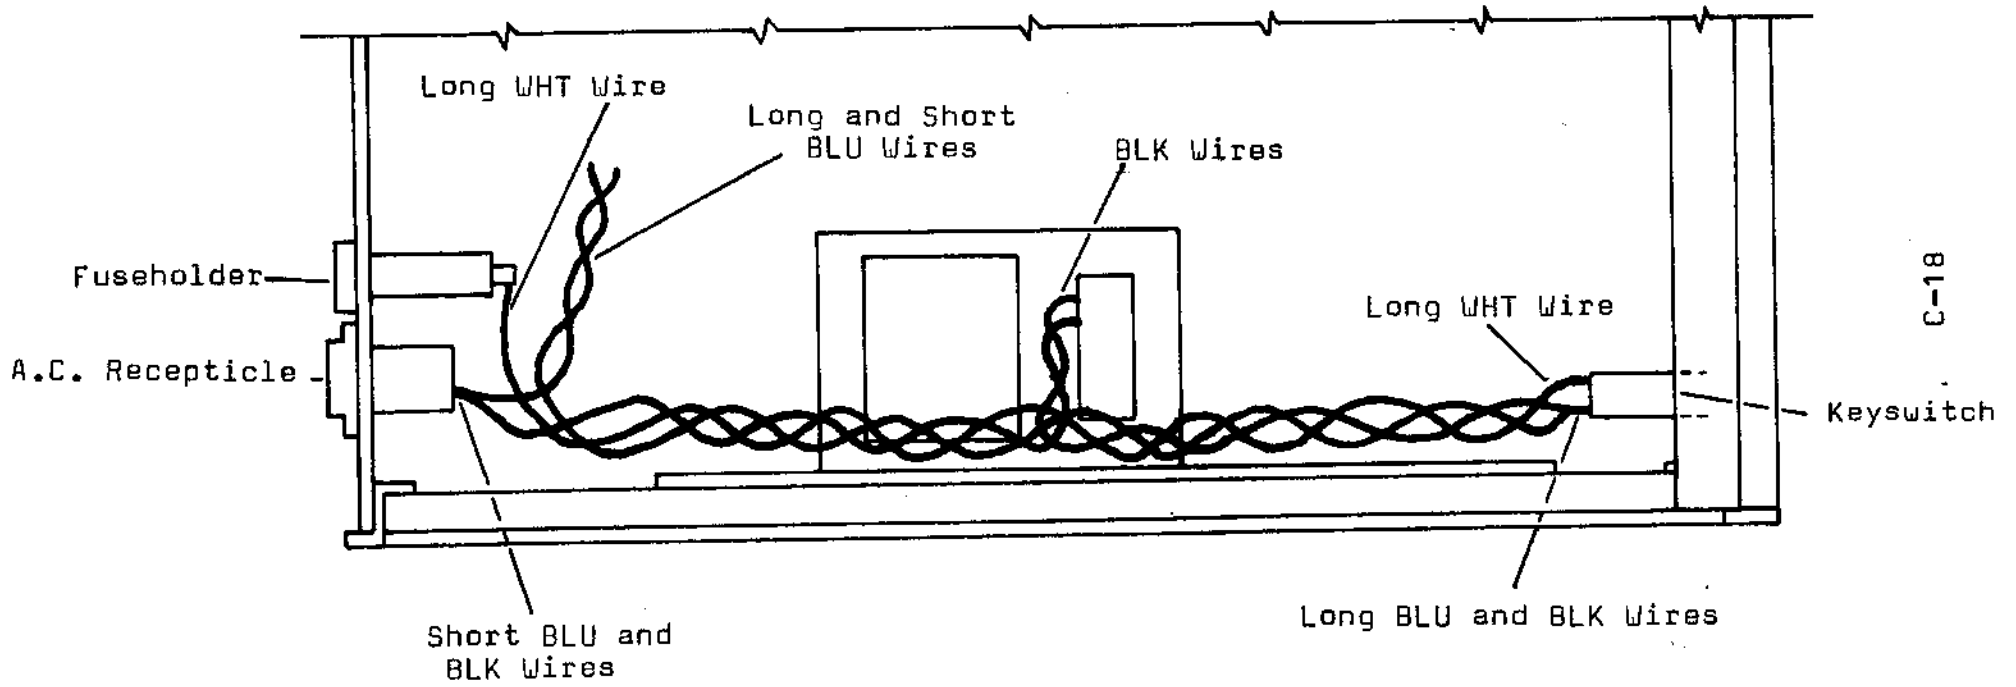

FIG. 9
- ( ) Position the cabinet upside down as shown in Fig. 9.